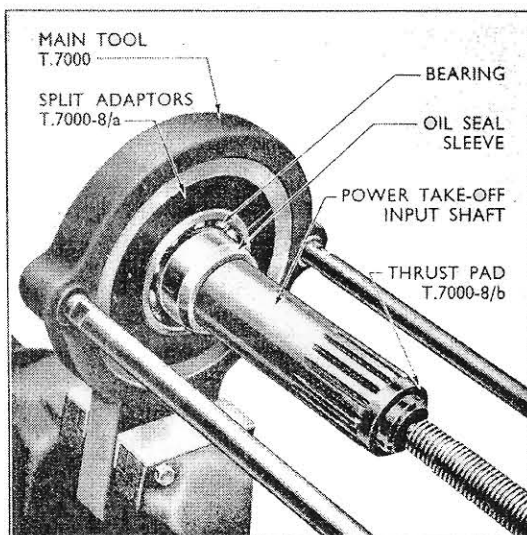

Fig. 11
3. Removal of the power take-off input shaft ball bearing or oil seal sleeve necessitates the withdrawal of both these components. If such dismantling is necessary, remove the circlip immediately in front of the oil seal sleeve, fit the split adaptors T.7000-8/a around the bearing and place this assembly in Main Tool T.7000. Locate the thrust pad T.7000-8/b in the front end of the shaft and press the shaft through the bearing and oil seal sleeve. (See Fig. 11.)